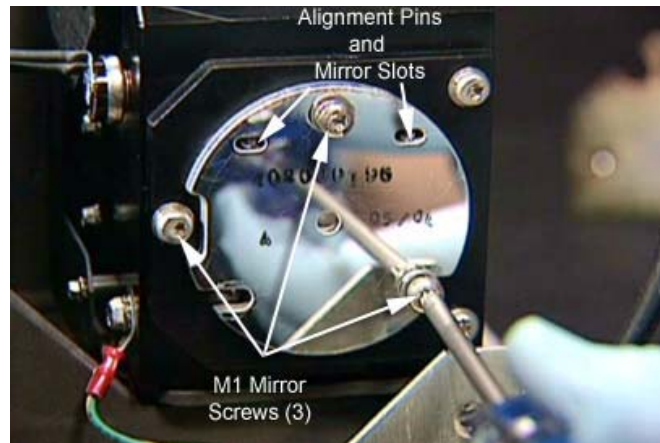

Figure 4 - M1 Mirror Screws and Alignment Pins
9. Using a T20 Torx driver remove the three screws and flat washers that secure the M1 mirror to the lamp housing (Figure 4), and then pull the M1 mirror straight out.